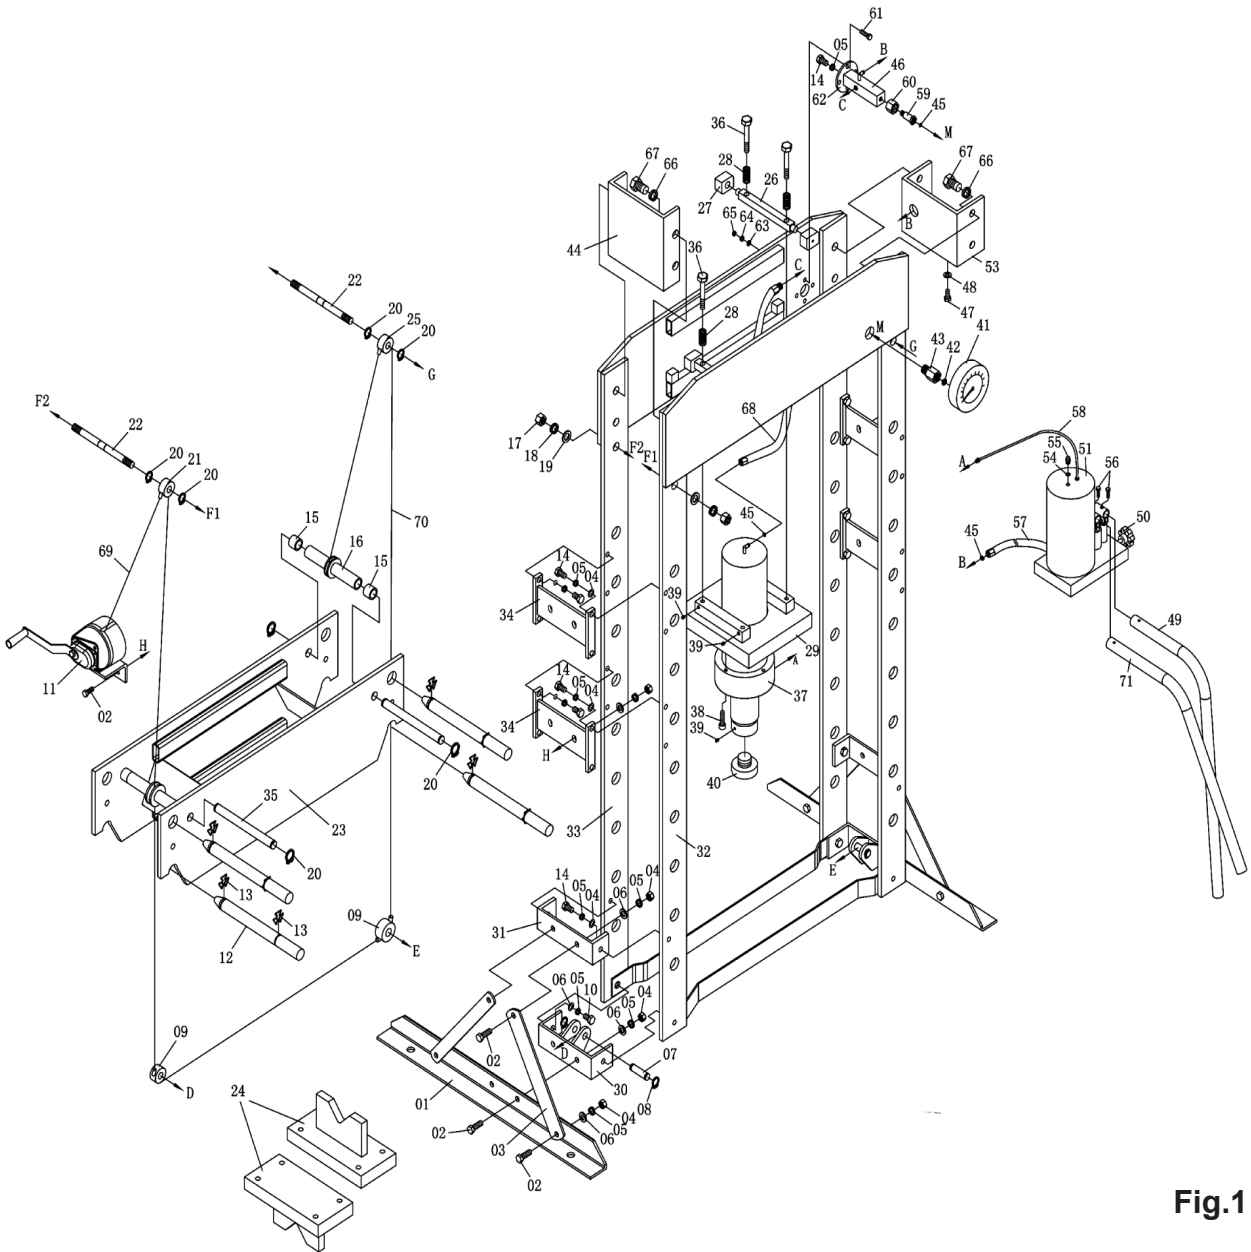

Fig.1
3.2 YK509FAH 50TON PRESS ASSEMBLY (use the exploded diagram Fig.1 as a guide to assembly).